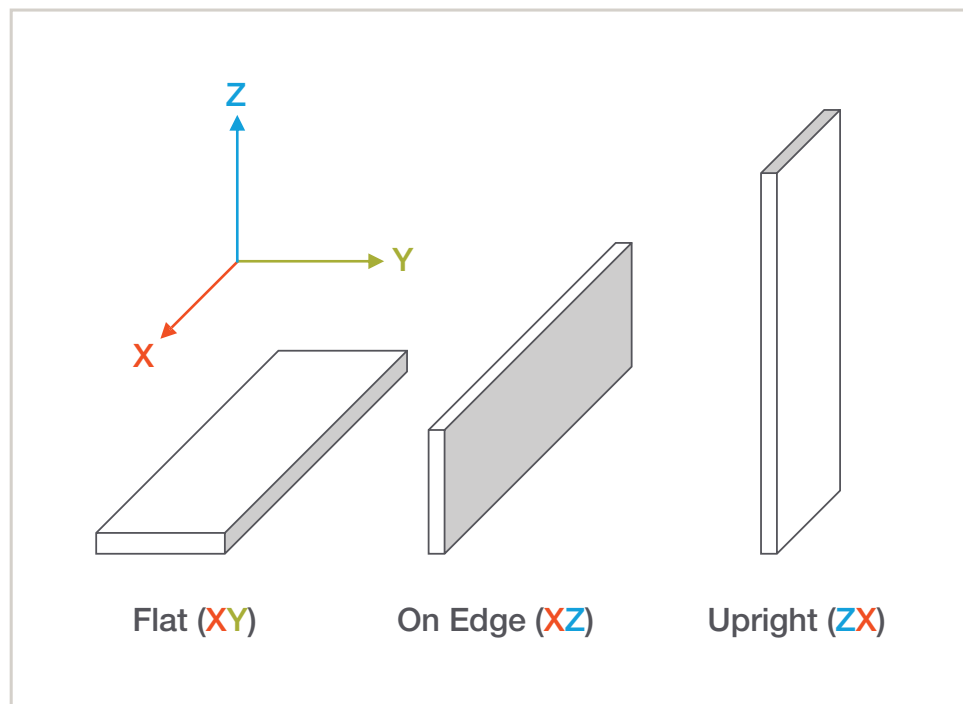

Figure 1: Print orientations.
Mechanical test samples were printed ten (10) samples per machine utilizing three (3) different machines, resulting in thirty (30) total samples per test for each orientation. Both on-edge (XZ) and upright (ZX) (Figure 1) orientations were tested.